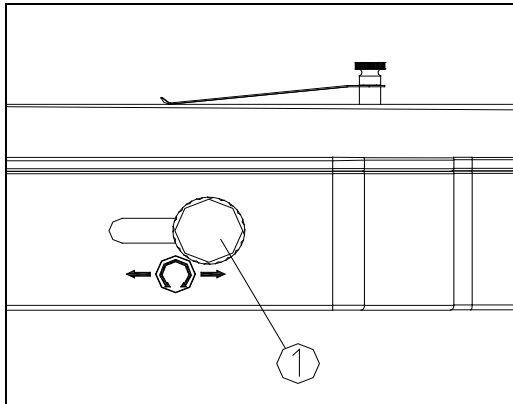

Fig.14
3. Rotating the adjustment knob (1) of the reflector (See Fig. 14), can change the reflector surface and also the angle of reflection
4. The adjustment knob (1) of the reflector can be moved forward and back according to the arrow direction, to achieve different lighting effects.